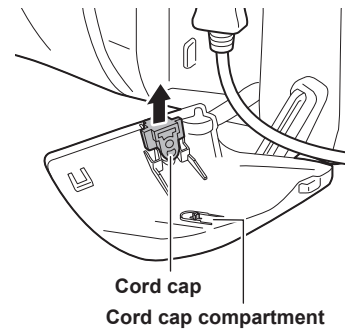
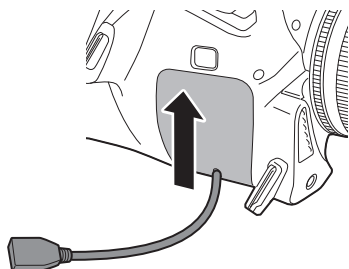

Fig. 3
Fig. 4
- 3 Remove the cord cap inside the removed cover (Fig. 3), pass the USB 2.0 extension cable there, and slide the cover to close. (Fig. 4)